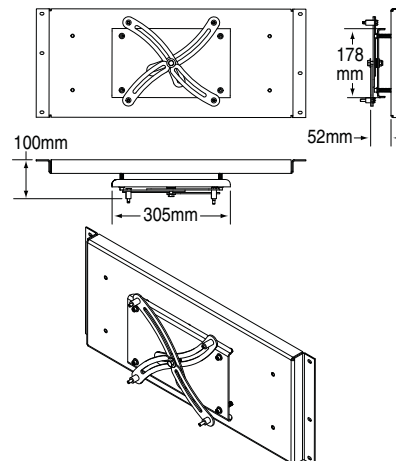

Figure 3
- ① Determine which size mounting bolts suit your projector, and set others aside. They are no longer required. If your projector has only three mounting holes, set aside one of the mounting arms (see Fig. 3).
- ② Attach the appropriate mounting arms to the rectangular plate via center bolt. Spread out the arms so each end is over one of the mounting holes.
- ③ Connect projector mounting arms.
- ④ Tighten the mounting bolts.